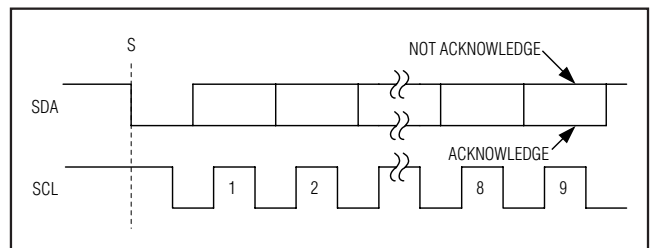

Figure 6. Acknowledge Bits
Data transfers are acknowledged with an acknowledge bit (A) or a not-acknowledge bit ($\overline{A}$). Both the master and the MAX11606–MAX11611 (slave) generate acknowledge bits. To generate an acknowledge, the receiving device must pull SDA low before the rising edge of the acknowledge-related clock pulse (ninth pulse) and keep it low during the high period of the clock pulse (Figure 6). To generate a not-acknowledge, the receiver allows SDA to be pulled high before the rising edge of the acknowledge-related clock pulse and leaves SDA high during the high period of the clock pulse. Monitoring the acknowledge bits allows for detection of unsuccessful data transfers. An unsuccessful data transfer happens if a receiving device is busy or if a system fault has occurred. In the event of an unsuccessful data transfer, the bus master should reattempt communication at a later time.